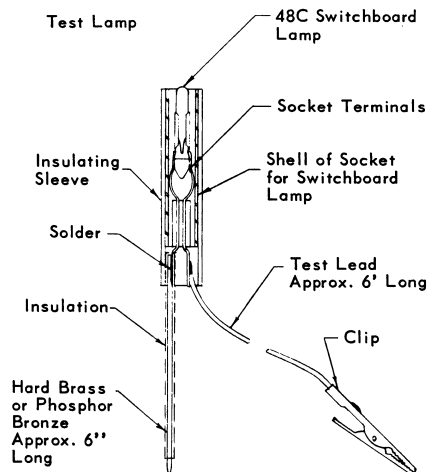

Figure 3
2. A 48-60 volt test lamp for checking energized circuits. See Fig. 3 for suggested arrangement. This can be built by the service technician. Lamp and sockets are available through local Graybar Electric houses.